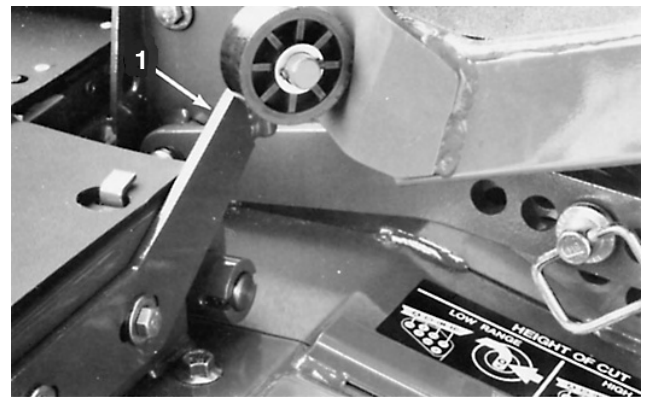

Figure 77
2. Loosen capscrews securing winglet stabilizer brackets to deck and move brackets outward (Fig. 77).